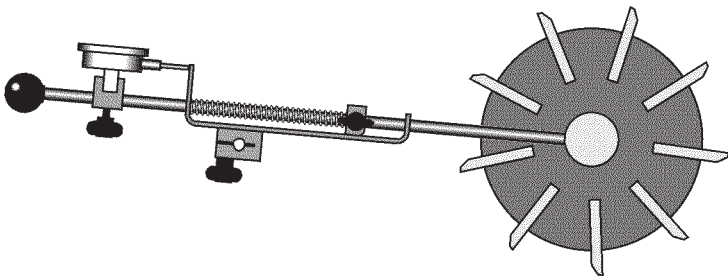

Figure 3.10 Horizontal alignment
3.5.8 For the horizontal alignment, gently pull back on the gauge rod against the spring and rotate the gauge on the mounting stud so that the gauge rod rests against the reel's center shaft (Figure 3.10).
positioning the indexer stop on the bottom of the reel blade. Additional adjustment is available by screwing the indexing stop in its block. Move the carriage back and forth to ensure that the indexing stop locates the reel blade so the finger point easily reengages the reel blade (Figure 3.10).